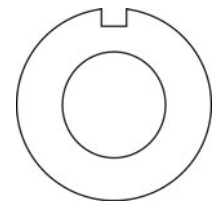

Figure 3-19 Air Rake Alignment Ring
3. Reinstall air rakes making sure that they are oriented as before with the notch on the alignment ring facing up, Figure 3-19.